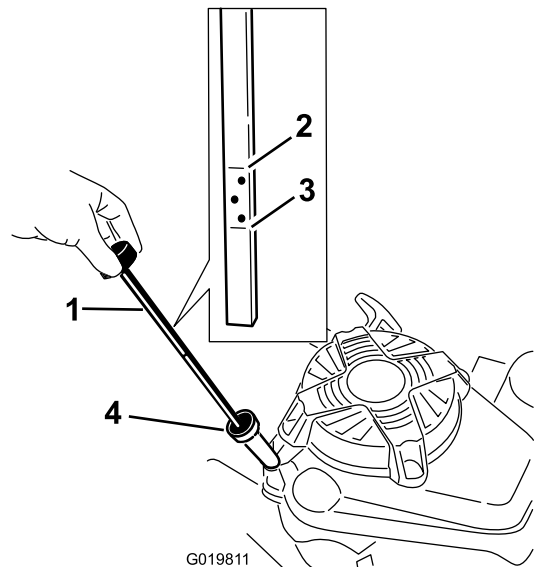

Figure 14
Before each use, ensure that the oil level is between the Add and Full marks on the dipstick (Figure 14).
2. Clean around the dipstick (Figure 14).
6. Read the oil level on the dipstick (Figure 14).